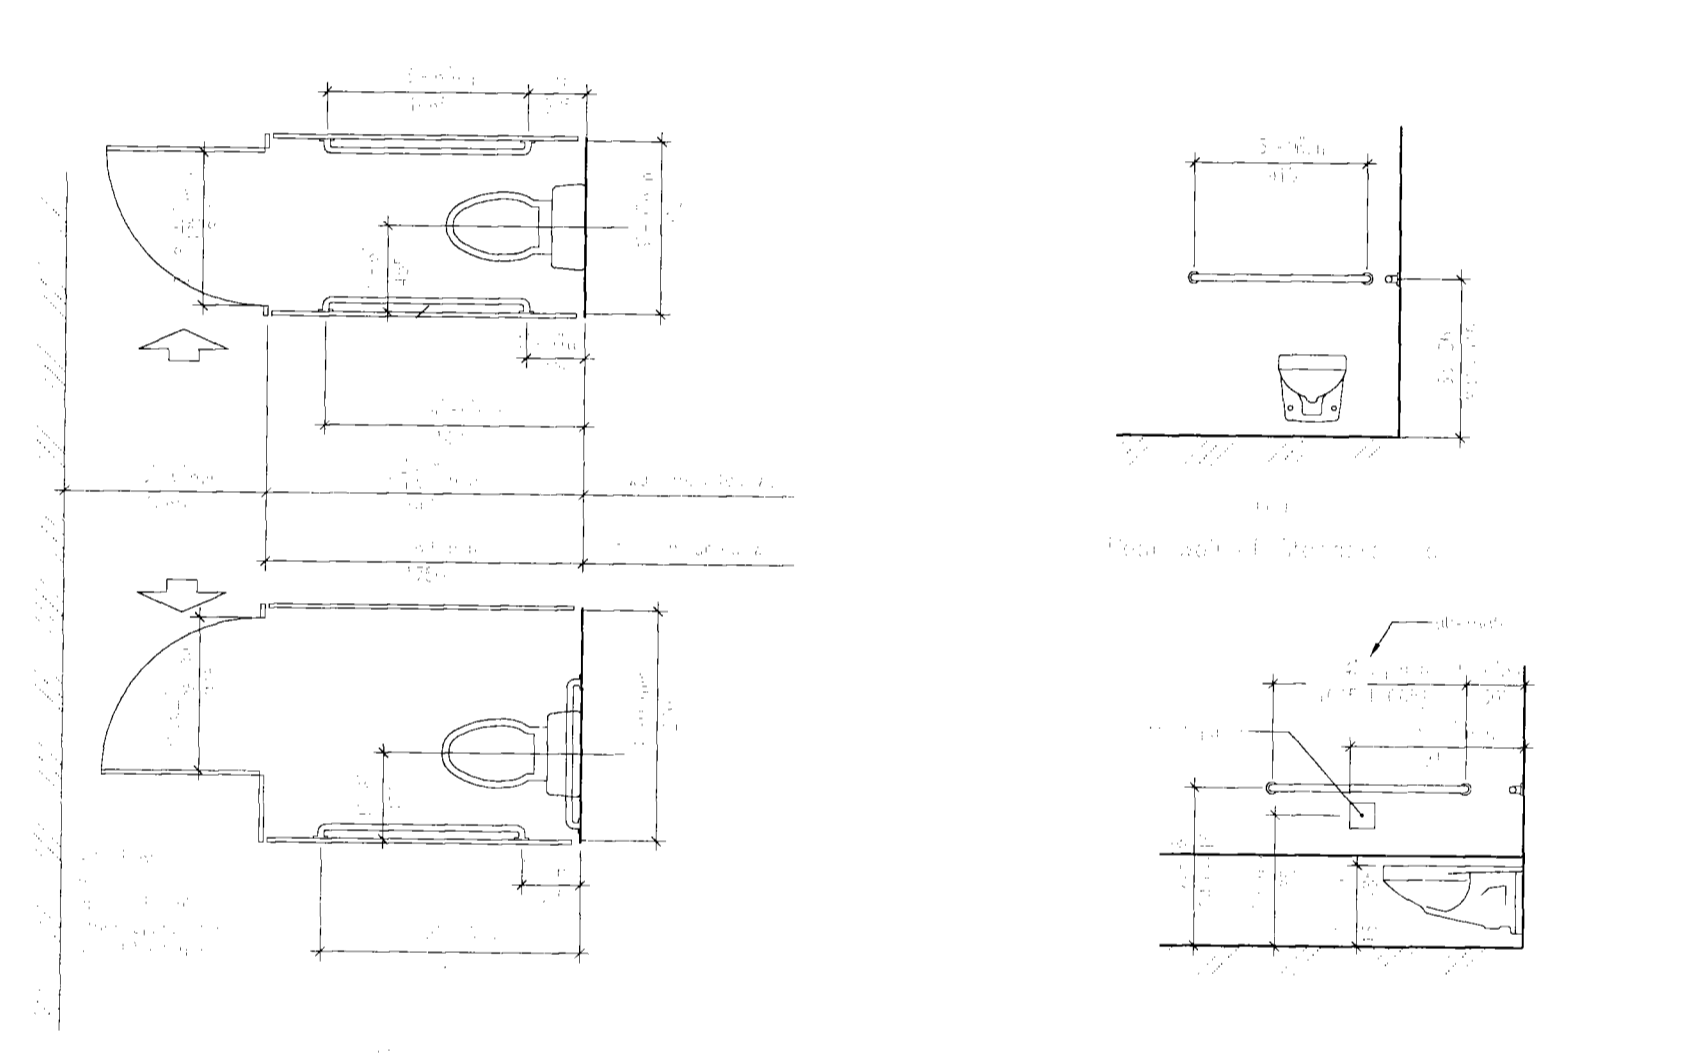

Fig. 32
c. A CLEAR FLOOR SPACE OF 30"x48" SHALL BE PROVIDED IN FRONT OF A LAVATORY OR SINK TO ALLOW A FORWARD APPROACH AND TO COMPLY WITH FIGURE 32